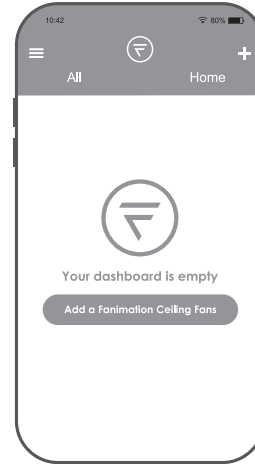

Figure 4
- ☐ 4. After you have created Fanimation fanSync account, you can add your fans in the app. (Figure 4)